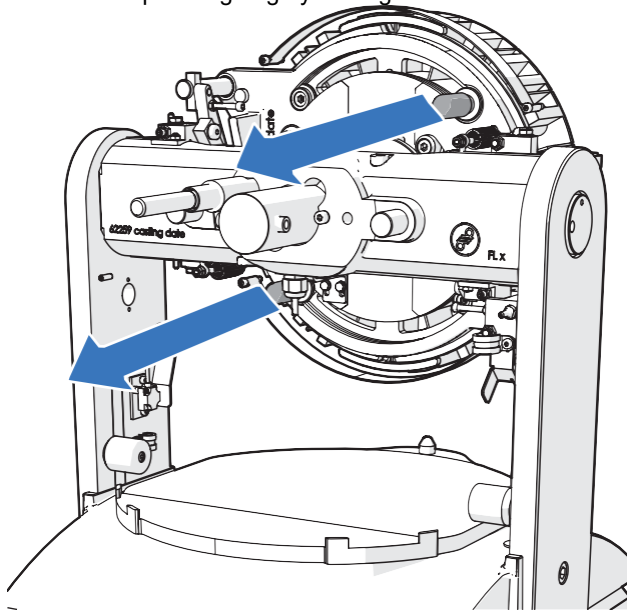

Figure 13 Remove the locking pins from the dividing disc
12. Remove the two locking pins from the dividing disc. See Figure 13.